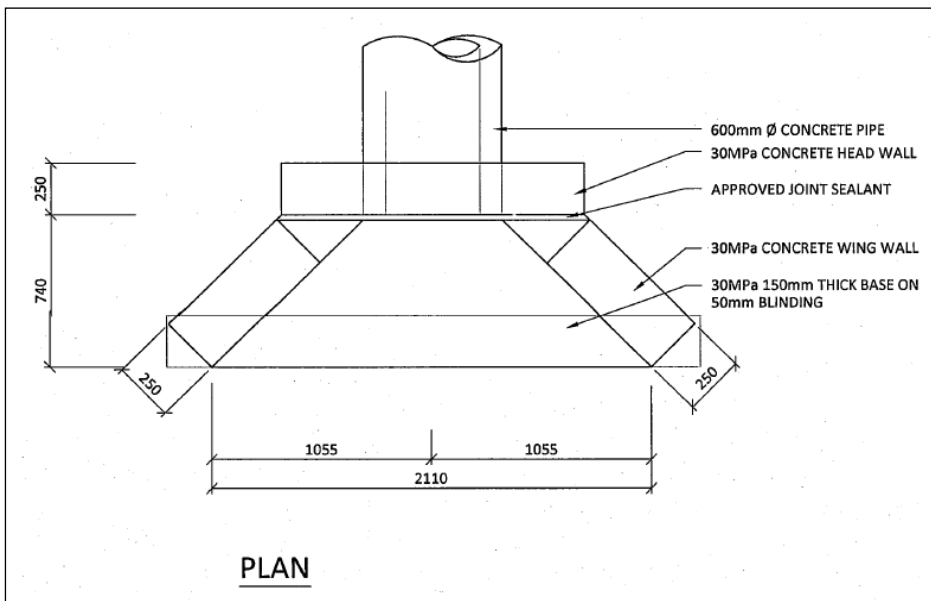

Figure 29: Typical Concrete Headwall Detail (Plan)
- Figure 29: Typical concrete headwall detail (Plan).